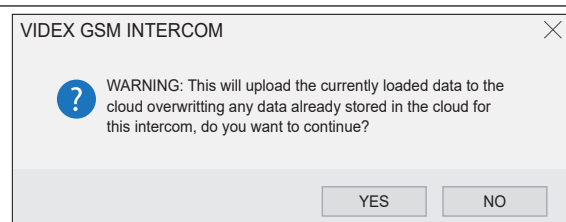

Fig. 110
7. An upload warning prompt window will appear, as shown in **Fig.110**. To confirm the upload of data to the cloud simply click the **'YES'** button. To cancel out of the operation click on the **'NO'** button.